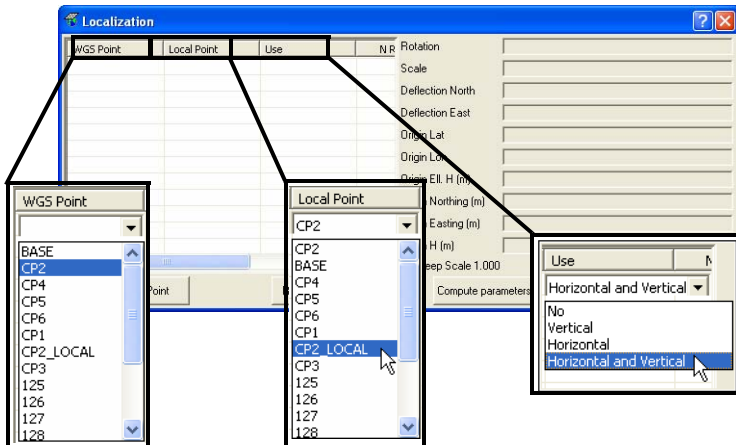

Figure 6-43. Select WGS, Local Point, and Use Data
4. Select the following information (Figure 6-43):